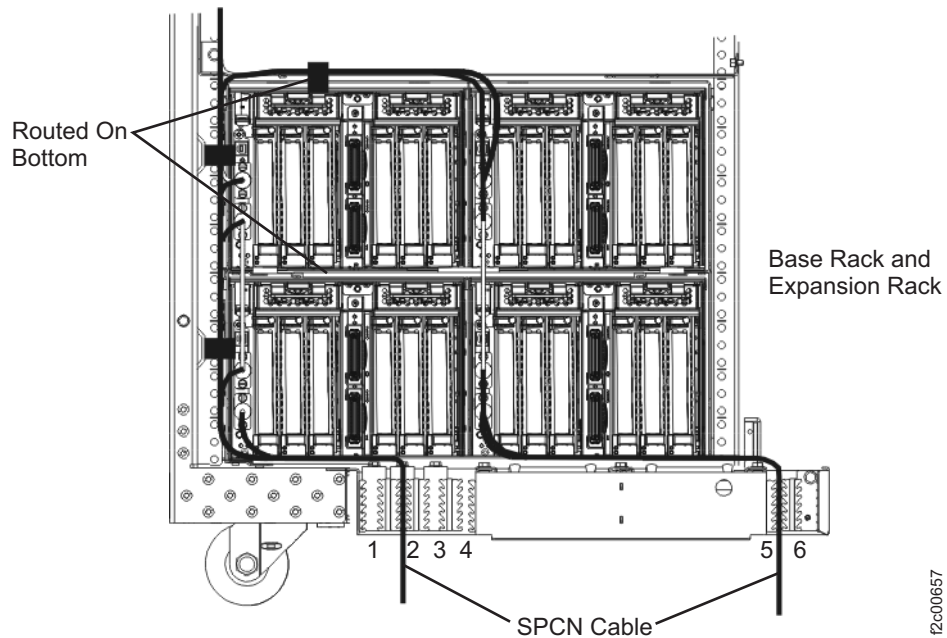

Figure 30. SPCN cable routing through the tailgate (later version tailgate)
- Route the SPCN cables on the left side of the rack through slot 2. See Figure 30 on page 34.
- Route the SPCN cables on the right side of the rack through slot 5. See Figure 30 on page 34.